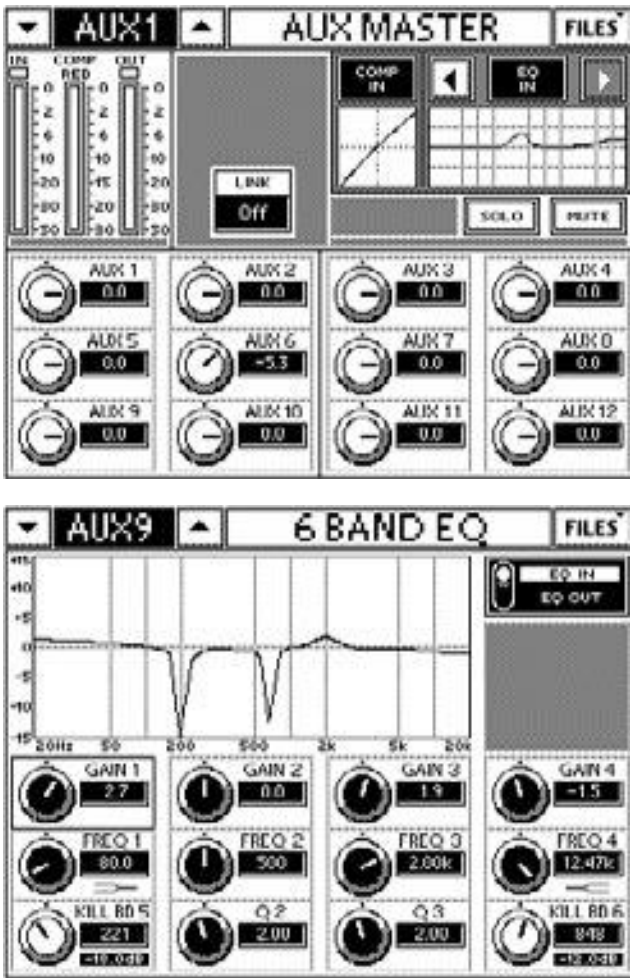

Figure 2-9 *AUX MASTER (top) and 6-BAND EQ (bottom) Touchscreens*
2. Select Aux master 1 by pressing the top-left QuickMix knob. Figure 2-9 (right) shows Aux 1 selected.
3. Touch the EQ graph or press the **EQ QuickMix** button to display the 6-BAND EQ for the selected Aux send 1 (bottom of Figure 2-9).